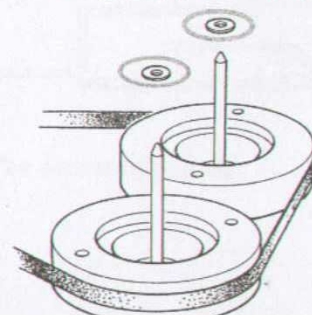

Fig. 3.11 Plastic washers for the capstans
- If the flywheels do drop out of their bearings, take care to replace them properly. There must be a small plastic washer on each of the capstans, see Figure 3.11.